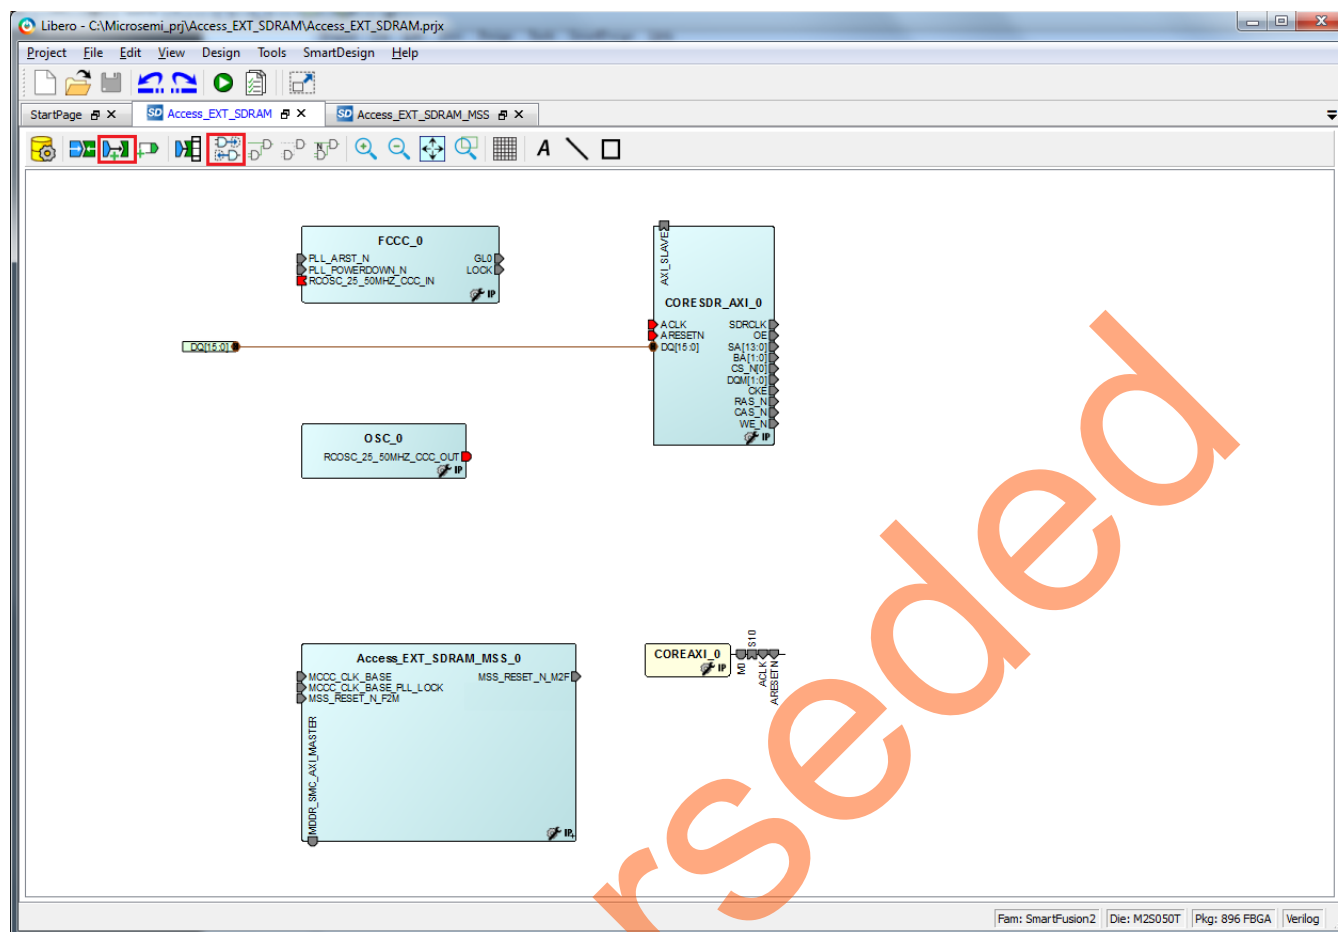

**Figure 22. Oscillator Configuration**
5. Drag the **Chip Oscillators** IP from the Clock & Management sub-section of the IP Catalog into the SmartDesign. Double-click the **OSC\_0** instance to open up its configuration window. Select the following as shown in Figure 22: